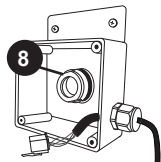
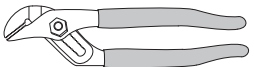
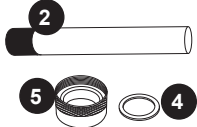

FIGURE 5
FIGURE 6
FIGURE 7
- Remove the quartz seal compression nut (5) by turning it **counterclockwise**, Figure 5. Use a pair of channel-lock pliers if needed, Figure 6. You will notice that there is a stainless steel compression washer (4) which slides over the quartz tube, save the washer (4) for later use, Figure 7.
- Now you are ready to clean or replace the quartz tube (2). For cleaning the quartz tube (2), follow steps 7 and 8 then proceed from step 9. For replacing quartz tube (2), skip steps 7 and 8 and proceed from step 9.
- Replacing quartz tube:** You will notice that the new quartz tube does not have a black cushion on the domed end as the old quartz tube does. This is normal as the cushion was provided to the original quartz tube to protect it from breakage during transportation. Place the new quartz tube (2) into the water chamber (1) with the domed end first; making sure it is inserted and seated inside the quartz end holder. Only a small portion will be exposed when it is seated correctly.
- Reinstall the compression washer (4) over the open end of the quartz tube (2).
- Reinstall and hand tighten the quartz seal compression nut (5) by turning it **clockwise**.
- System Test 1:** Assure there is no water dripping from the seal compression nut (5). If water is visible, **STOP** and tighten the compression nut (5) using a pair of channel lock pliers to a maximum of 1/4 turn. If that does not fix the leak, then repeat quartz tube maintenance process from step 1 through step 12. Make sure there is no water leaking **BEFORE** proceeding to step 14.